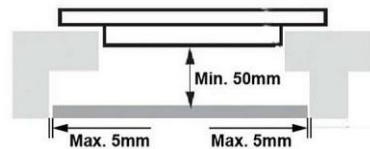

Fig. 4
- Fix a wooden insert in a minimum distance of 50 mm from the bottom of the heating plate, using bolts. Consider for clearances provided in Fig. 4.